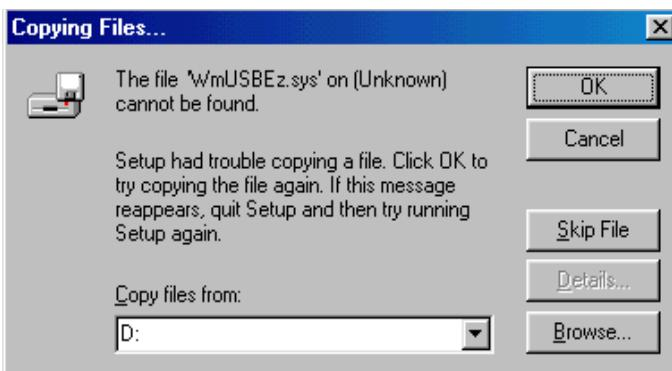

Figure 1-8. Windows 98 – Copying .SYS File
10. Click **OK**. The Copying Files dialog box (Figure 1-8) appears.